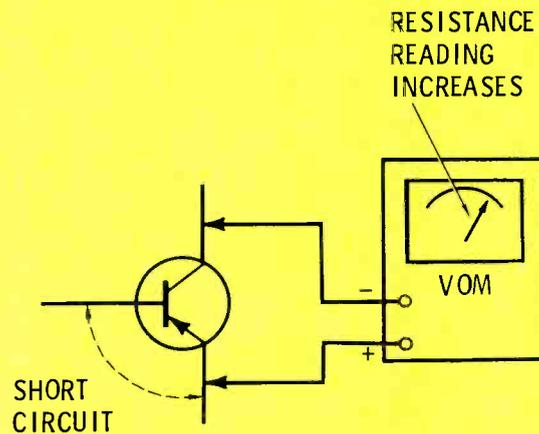

Fig. 2 Ohmmeter merit test of a transistor. Reading should increase when base is shorted to emitter.
The result is the same as in Fig. 2. The transistor is triggered into conduction only near the station center frequency (the carrier for AM). The output of Q1 is a negative-going pulse shaped the same as that part of curve 2C above the trigger-level line. It cuts off Q2 and Q3 the same as for FM.
Fig. 2 Graph of rise and fall of DC voltage at base of trigger transistor as tuner scans through station signal. (A) Main signal. (B) Signal for gain control. (C) Resultant trigger voltage.
A useful merit test of a transistor can be made as shown in Fig. 2. The ohmmeter leads are connected between collector and emitter, so